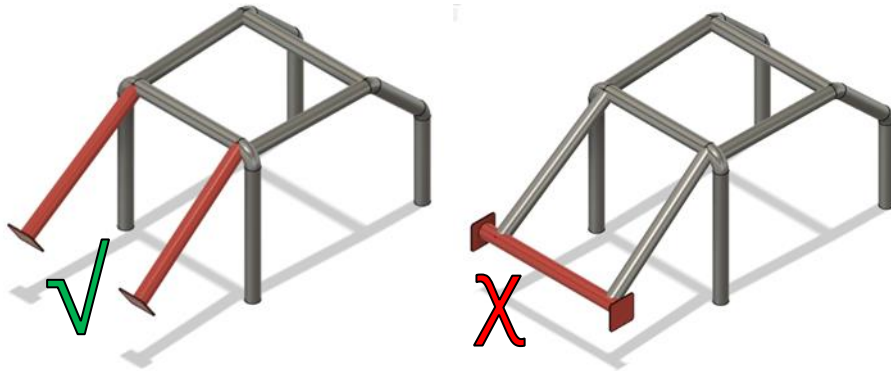

Figure 8
- F. One (1) “Knee” bar is recommended in a horizontal plane between A-pillar in the dash area for all configurations.
- A. The main roll hoop shall have two braces extending to the rear attaching to the chassis/unibody. Refer to Figure 8